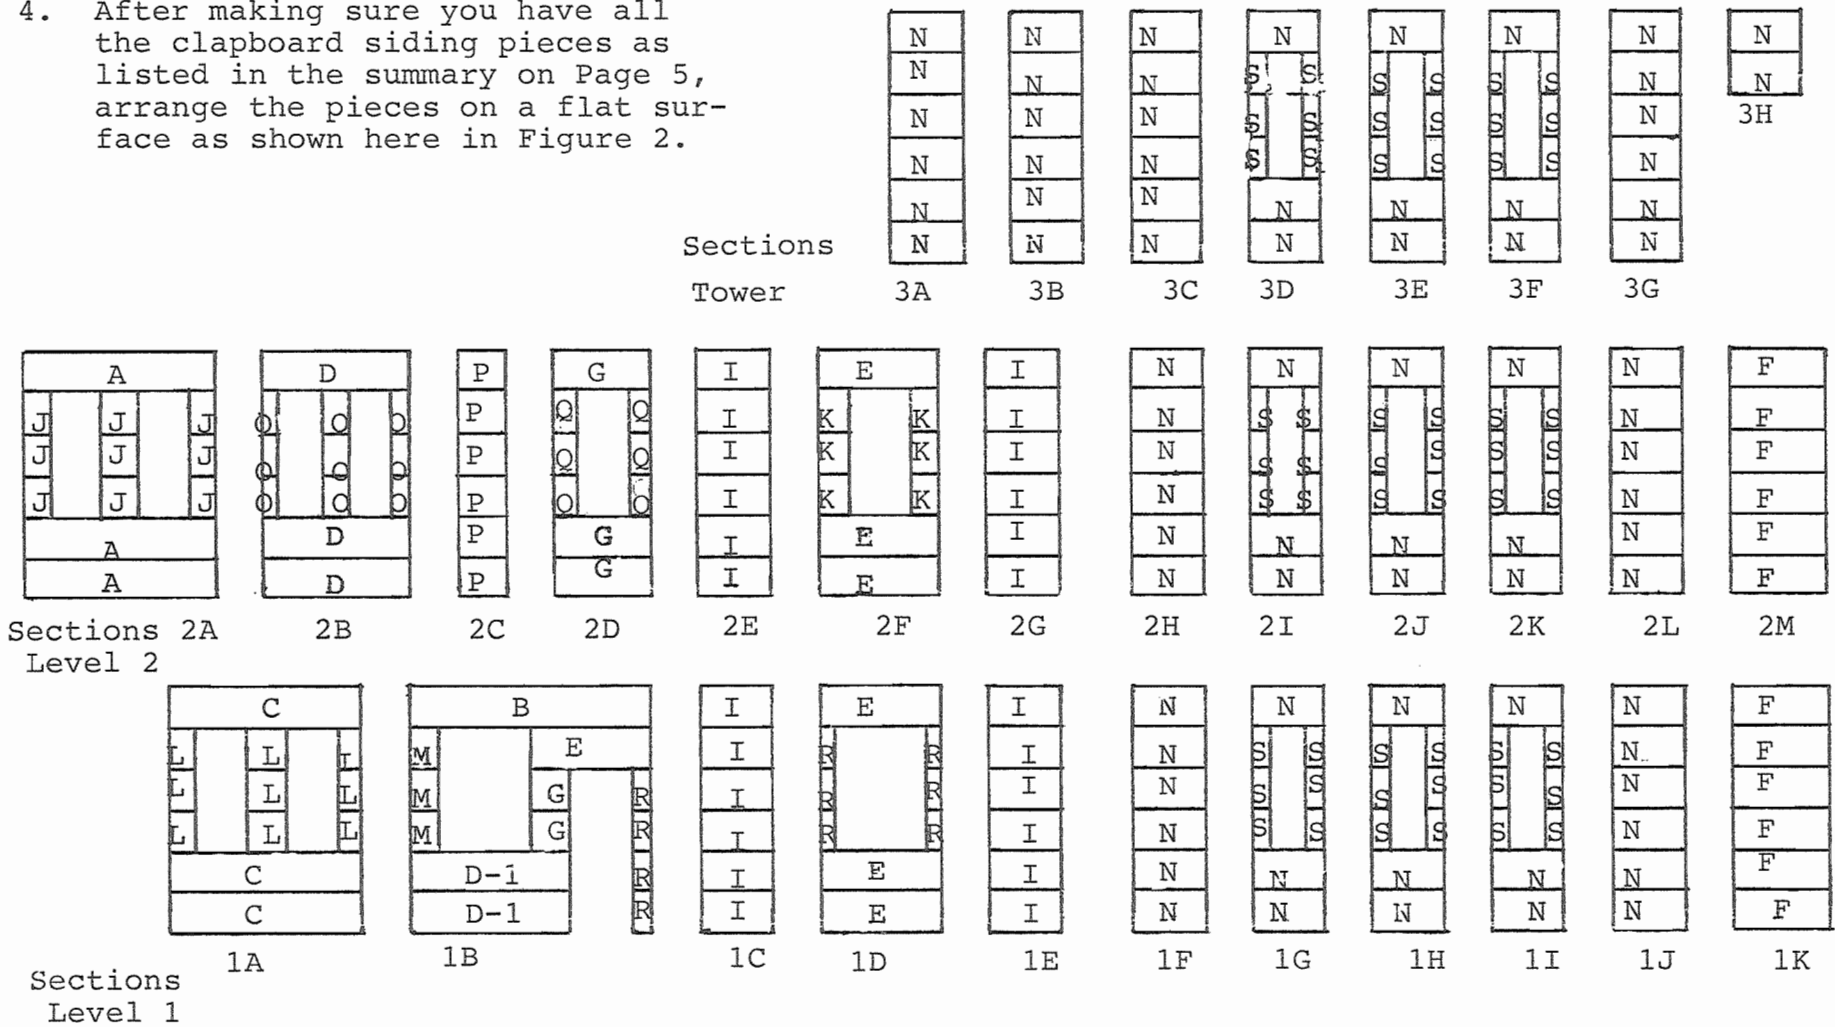

FIGURE 2
- a) Clapboard siding bundles (Refer to Figure 2.)
4. After making sure you have all the clapboard siding pieces as listed in the summary on Page 5, arrange the pieces on a flat surface as shown here in Figure 2.
6. After you are satisfied that the siding will interlock properly, you are ready to glue up the wall sections. Be sure to glue the pieces together according to the diagram in Figure 2.
7. Complete all of the wall sections as shown in Figure 2 following the assembly procedures as described above. Allow at least one hour for the glue to dry before handling completed wall sections.